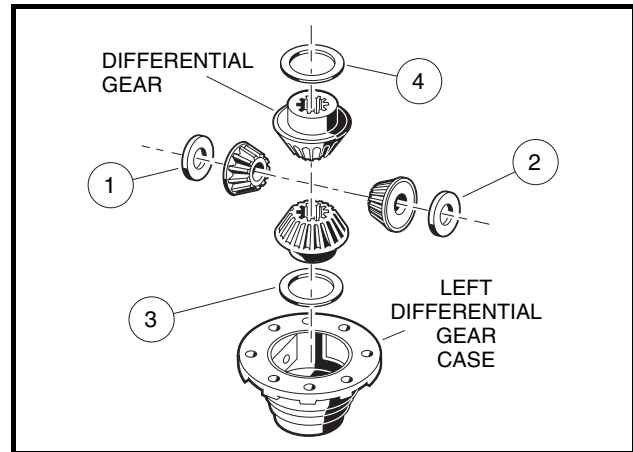

Figure 28-16 Left Differential
- 8.5. Remove the idler gears and thrust plates (1 and 2) (**Figure 28-16, Page 28-9**).